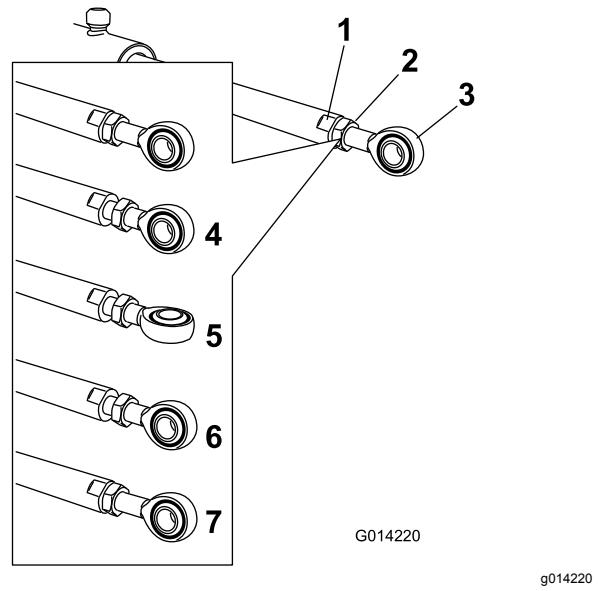

Figure 94
5. Use a wrench on the flat sides of the actuator rod to immobilize it, then loosen the jam nut to allow the eyelet rod to be manipulated (Figure 94).
6. Turn the eyelet rod in the actuator rod to shorten or lengthen the extended actuator to the desired position (Figure 94).